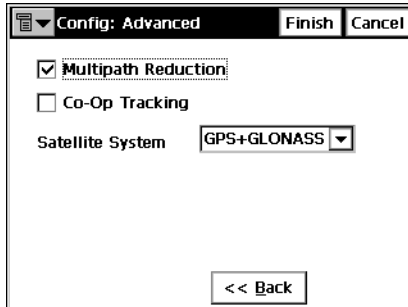

Figure 3-44. Config: Advanced
5. Set the advanced parameters for the survey (Figure 3-44 on page 3-31).